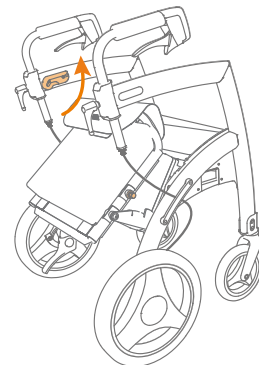
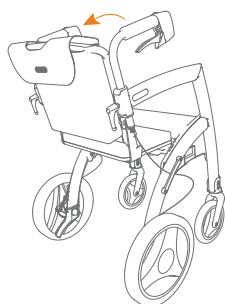

Figure 34: Pull the wheelchair backrest further up.
Figure 35: Click wheelchair backrest into the guide rails.
- c. Pull the backrest further up and then back (**Figure 34**) so that the locking bolts click into the upper guide rails on the frame (**Figure 35**). If the upper locking pins do not slide smoothly into the upper guide rails on the frame, push the wheelchair backrest forward until halfway up the frame and try again.